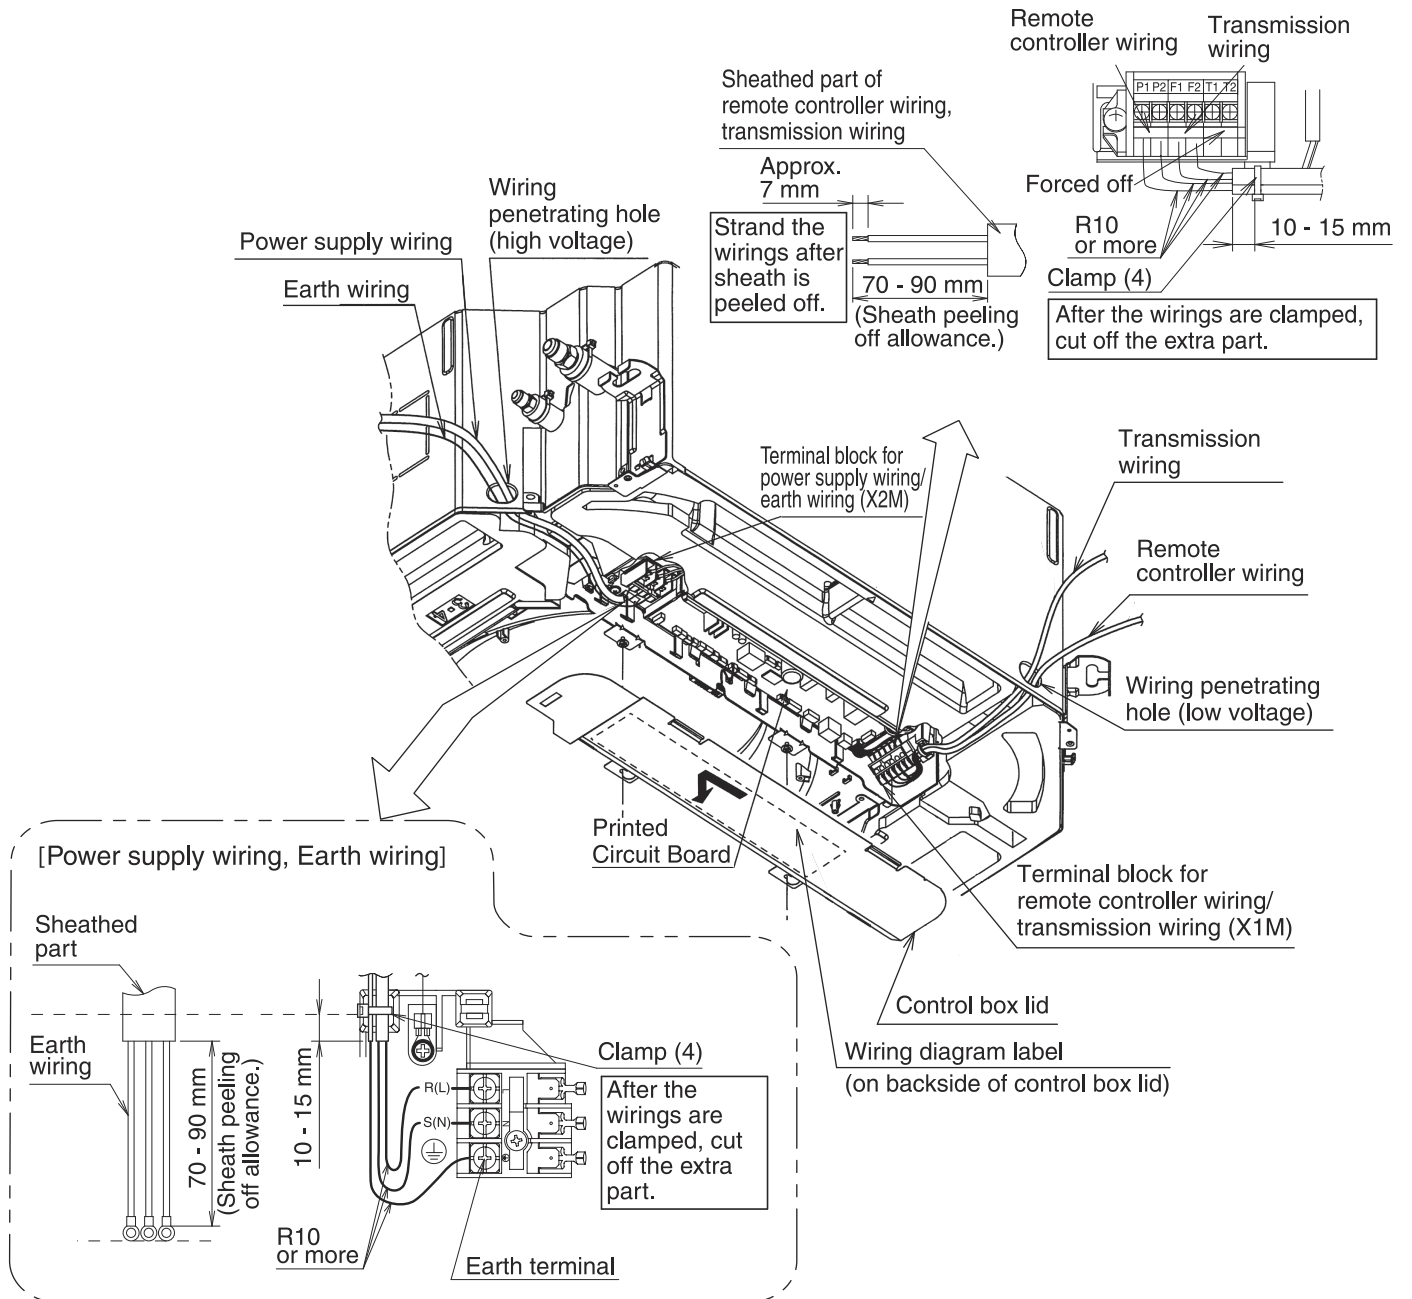

Fig. 23
- Connect the terminal as shown in Fig. 23.